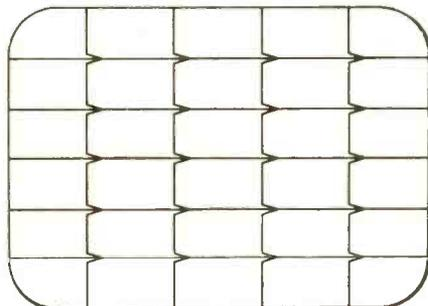

Fig. 1
*horizontal line. (Fig. 1) In a picture, I've also got a group of scanning lines that are too widely spaced; this covers about a couple of inches, and sometimes floats up and down a little. What causes all of these weird symptoms?—R.G., Reno, Nev.*